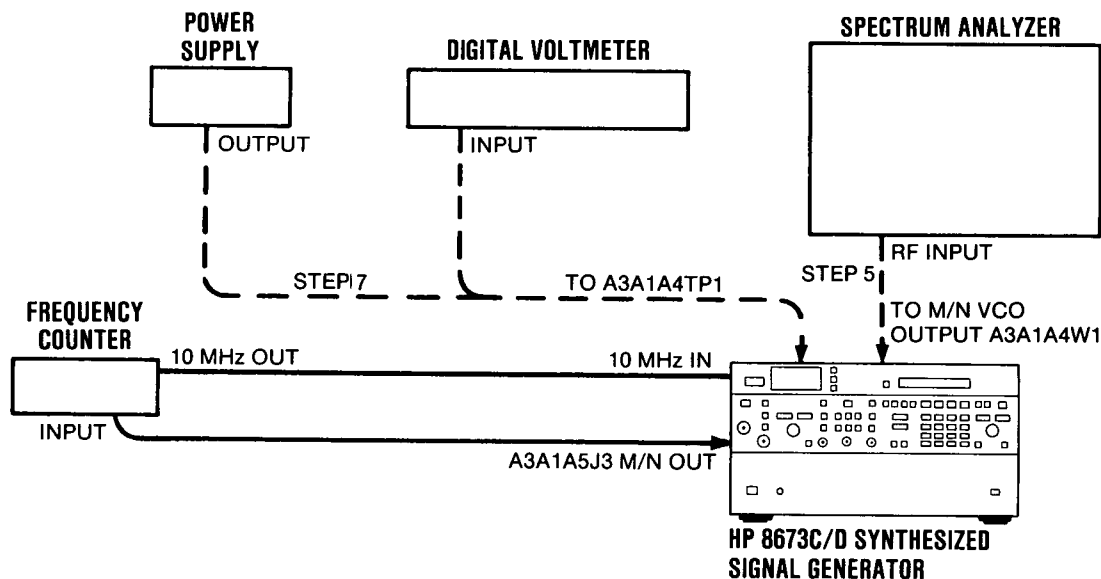

Figure 5-7. M/N Loop Adjustment Test Setup
2. Connect the equipment as shown in Figure 5-7.